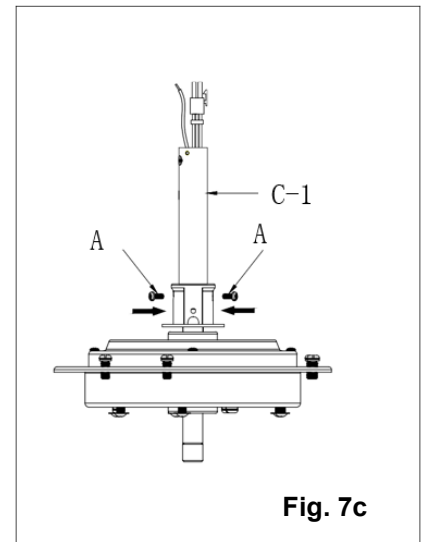

Fig. 7c
- Secure the down rod (C-1) by tightening the set screws (A). **(Fig. 7c)**